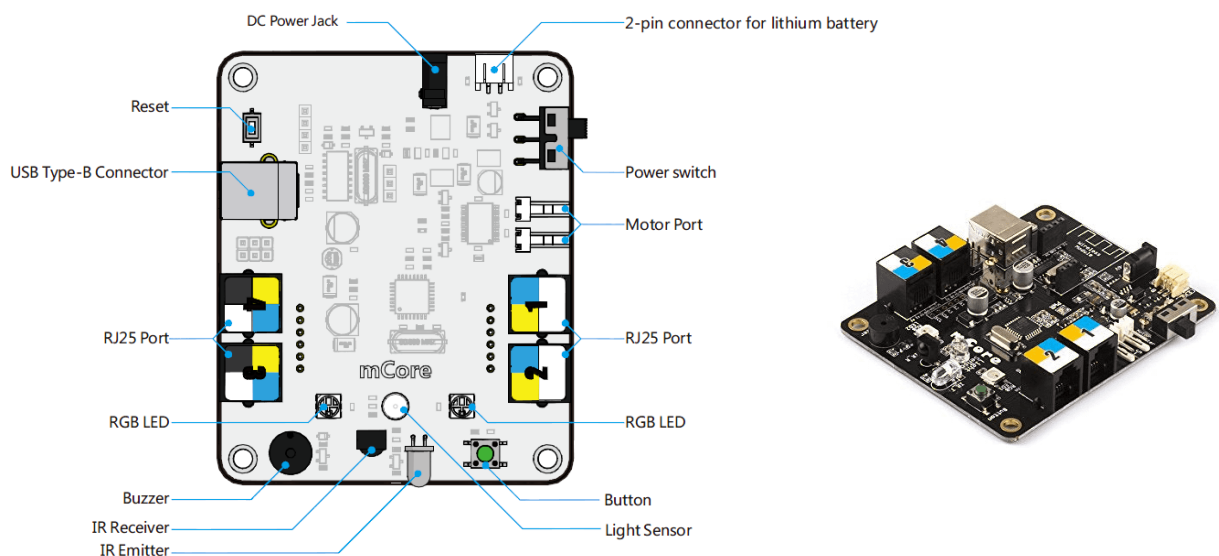
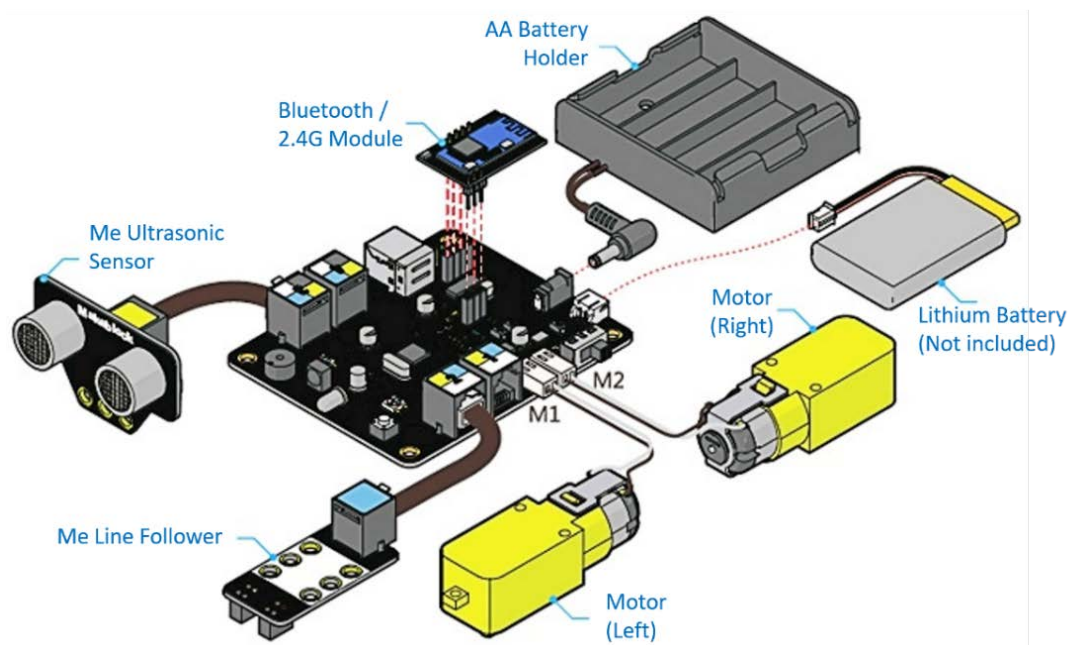

Figure 2: mCore – the mBot's main control board.
Figure 3: basic wiring of the mBot.
- The mBot's main control board is called the "mCore". Its layout is shown in Figure 2 below.
- As seen in Figure 2, the mCore has four RJ25 ports (for connecting cables that look like telephone cables). These ports can be used for connecting to other mBot accessories/sensors. We will be using some of these ports for connecting to your other self-built sensors in the project.
- An infrared (IR) emitter and an infrared receiver
- Figure 3 shows the basic wiring of the mBot. Note that there is **no need** for you to connect the **AA battery holder**, as we have provided you with the Lithium Polymer rechargeable battery. The battery will be recharged whenever you connect your mBot to a computer or a USB charger via the given USB cable.